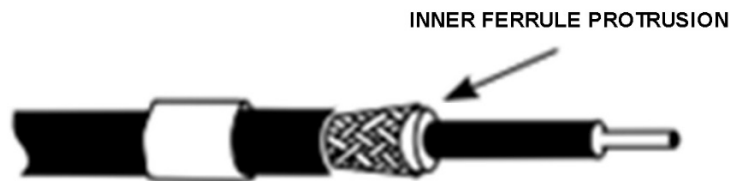

Figure 4 - Inner Ferrule under shield position
- e. Slide the inner ferrule under the shield as shown in Figure 4 with a maximum of 0.06 inch (1.5 mm) protruding out from under the shield.